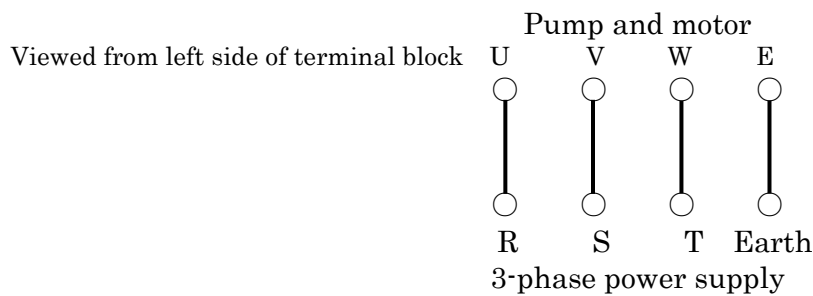

Fig.3.2 Wiring Diagram
- 3) Modification to pump wiring is required. Connect the power cable to the pump terminal block, install the switch between the terminal block and the power supply, and insert the power cable plug into regulation voltage socket (see Fig.3.2 Wiring Diagram).